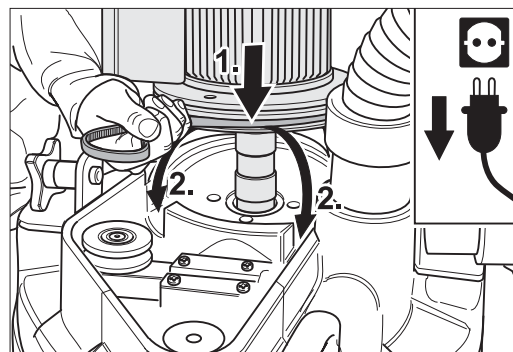

Fig. 49 Loop the new V-belt around the motor pulley (1.) and insert the motor. Make sure the belt is passed through the two recesses on the casing (2.).
- 2 With V-belt in place, lower motor vertically onto the gear casing. Make sure the V-belt does not slide off the motor pulley and get jammed between the motor and the casing. The belt must be passed through the two recesses on the casing (Fig. 49).